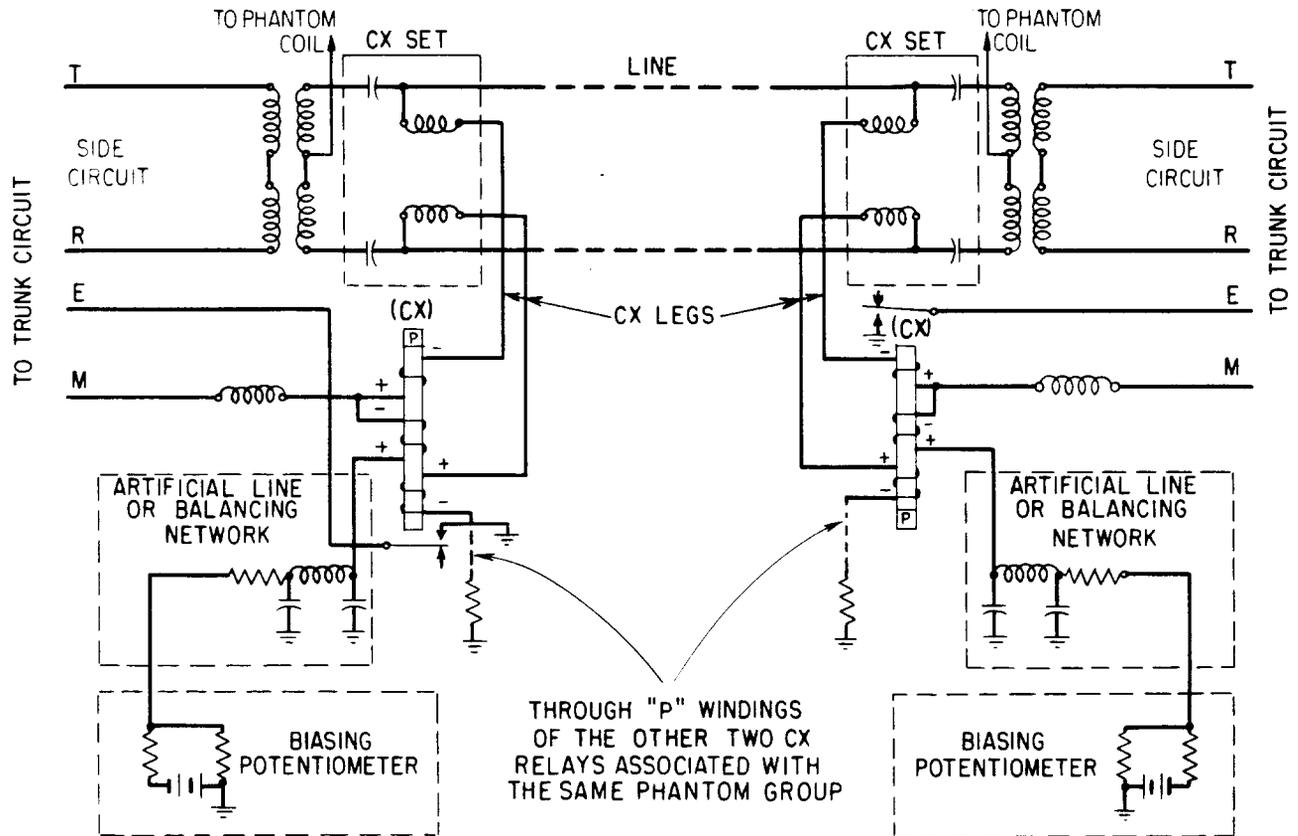

Fig. 8—CX Signaling
**4.35 Composite Signaling.** This method consists essentially of combining a voice transmission path with dc signaling path by means of a high-pass, loss-pass filter arrangement as shown in Figure 8. The signals are transmitted between central offices over one wire of the transmission circuit with ground return. Where necessary, the second conductor of the transmission path can be used to compensate for differences in